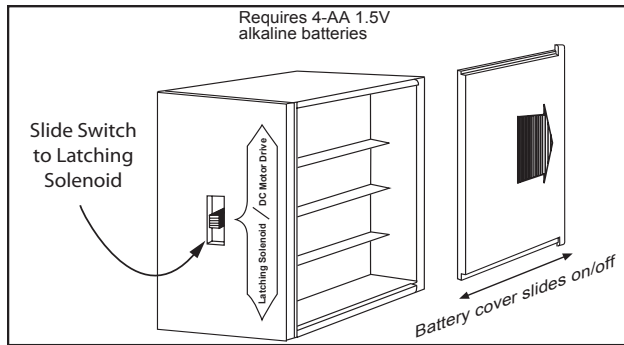
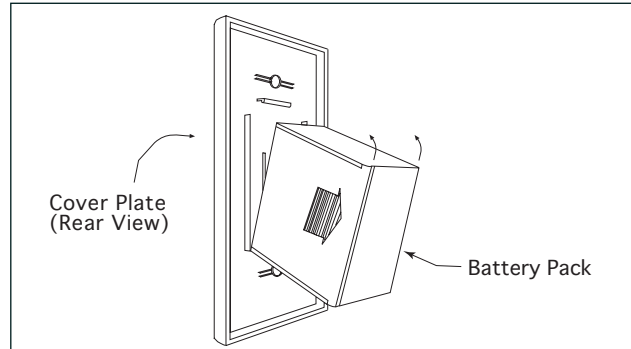

Fig. 7. Slide switch on latching solenoid
Fig. 8 Cover plate installation
7. Normal operation of the fire pit is with a battery pack that is supplied with your system (Fig 7). The battery pack has 12-feet of black sleeved wire that is to be passed through the junction box provided. This wire should not be cut or spliced and the junction box can be placed in the facing of the vertical finish of the fire pit, if you place the wire under ground you should install those wires into an approved protective conduit/sleeve material.
4. Install the (4) AA batteries in to the battery compartment shown in Fig 7. Double check to ensure the slide switch is in the Latching Solenoid position on the battery pack. Then snap cover plate in place as shown in Fig.8.